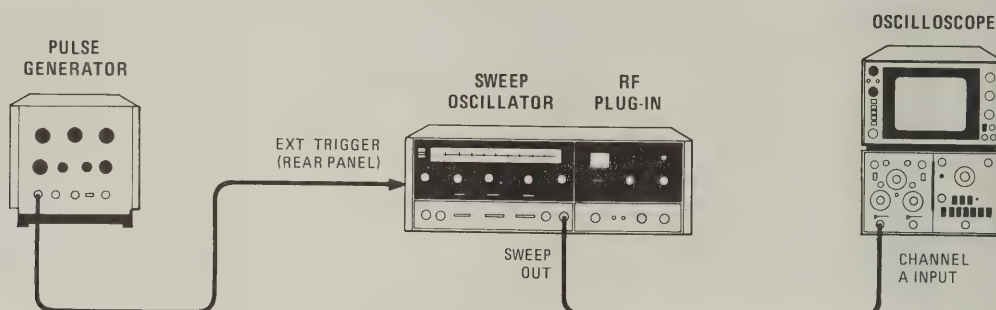

Figure 4-13. Triggered Sweep Test Setup
- Connect equipment as shown in Figure 4-13.